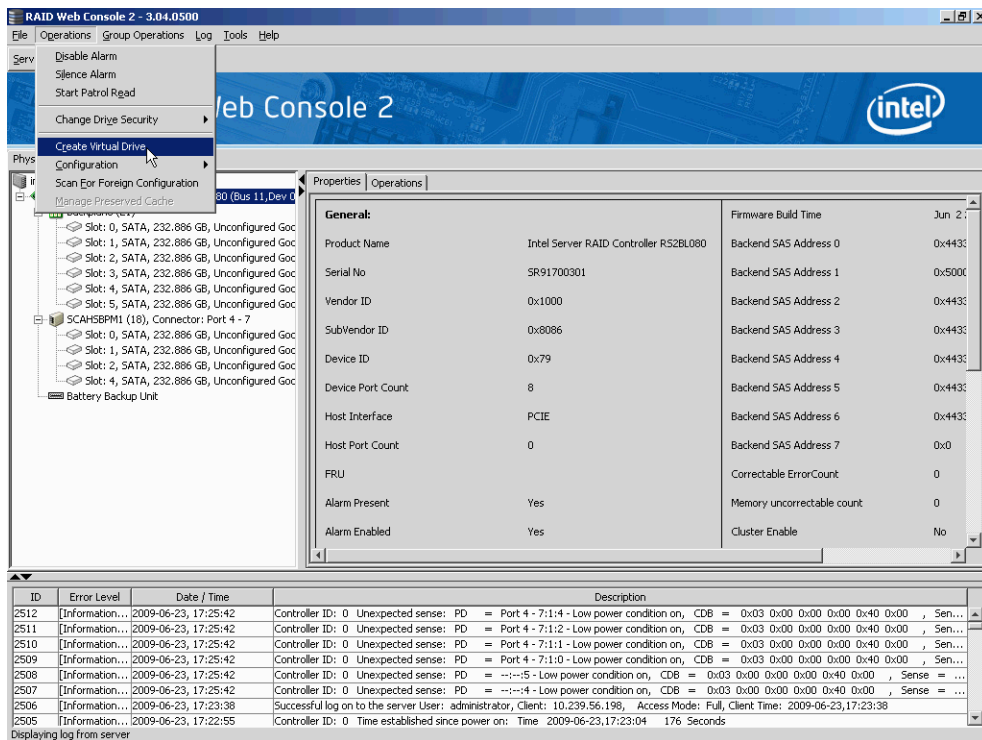

Figure 89. Virtual Drive Creation Menu
- Select the controller node and select Operations->Create Virtual Drive in the menu bar, as shown in Figure 89